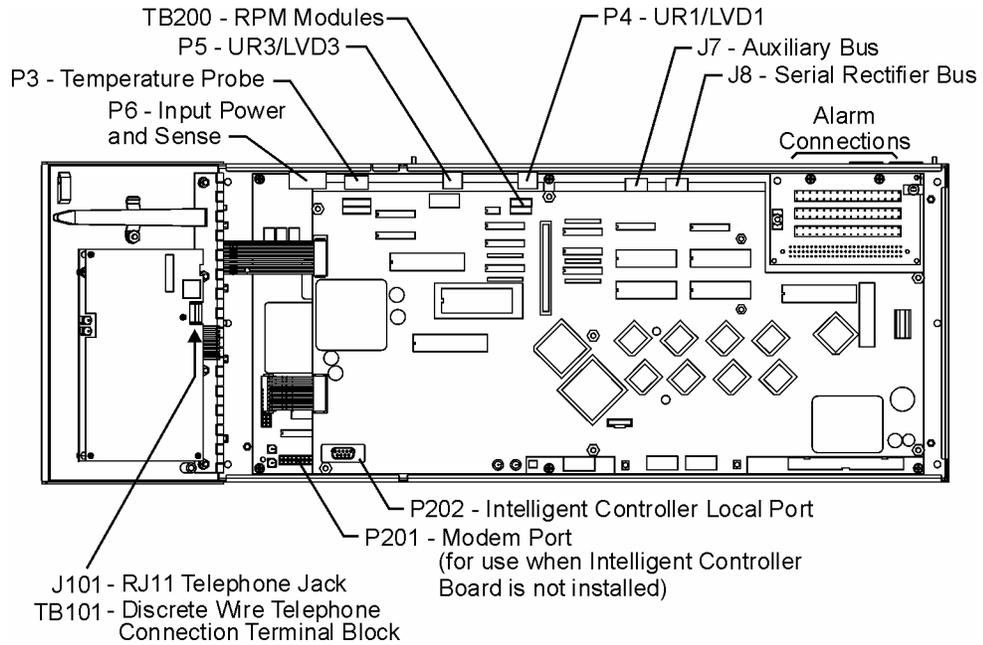

Figure 6-5: Millennium Controller Connections
b.	Next, locate P6 and the Input Power, Shunt and Regulation cable at the upper left hand corner of the basic (BSH) controller. (see Figure 6-5)
a.	On the Basic controller (BSH), locate J8. (see Figure 6-5)
a.	On the Basic controller (BSH), locate the BSL alarm block. It is located in the upper right hand corner of the BSH board. (see Figure 6-5)
a.	On the Basic controller (BSH), locate P3. It is located at the upper left hand corner of the BSH board, and is white connector. (see Figure 6-5)
a.	On the Basic controller (BSH), locate P201. It is located on the lower left hand side of the BSH board. (see Figure 6-5)